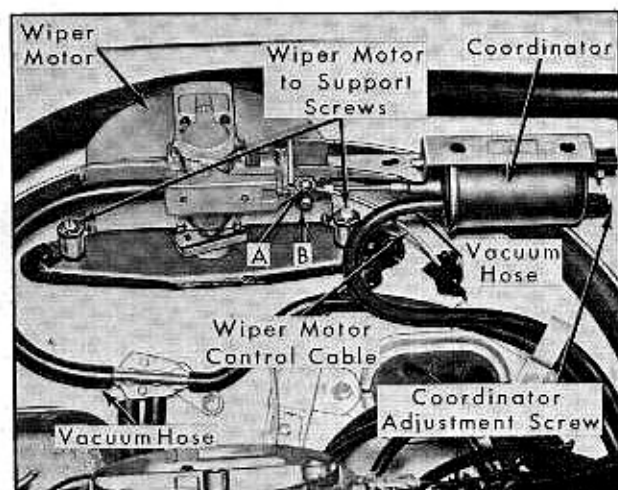

Fig. 3-9 Windshield Wiper Motor Assembly
2. Disconnect wiper motor control cable at wiper motor, Fig. 3-9.
(9) Windshield Washer Coordinator Adjustment, Removal and Installation
1. Turn adjustment screw, Fig. 3-9, clockwise
2. Remove screws "A" and "B", Fig. 3-9, from wiper motor.
(10) Removal of Windshield Glass